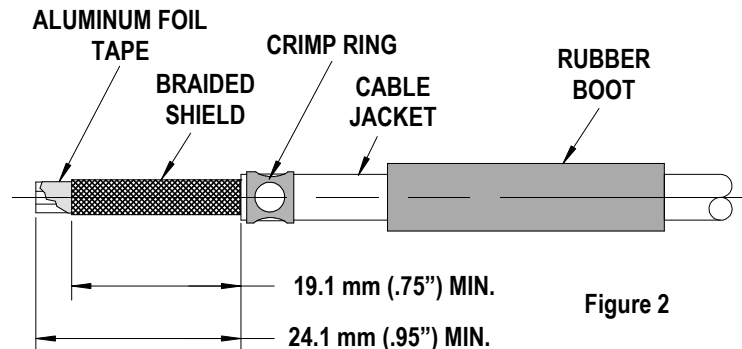

Figure 2
- Trim the cable jacket and braided shield to the dimensions shown in Figure 2.